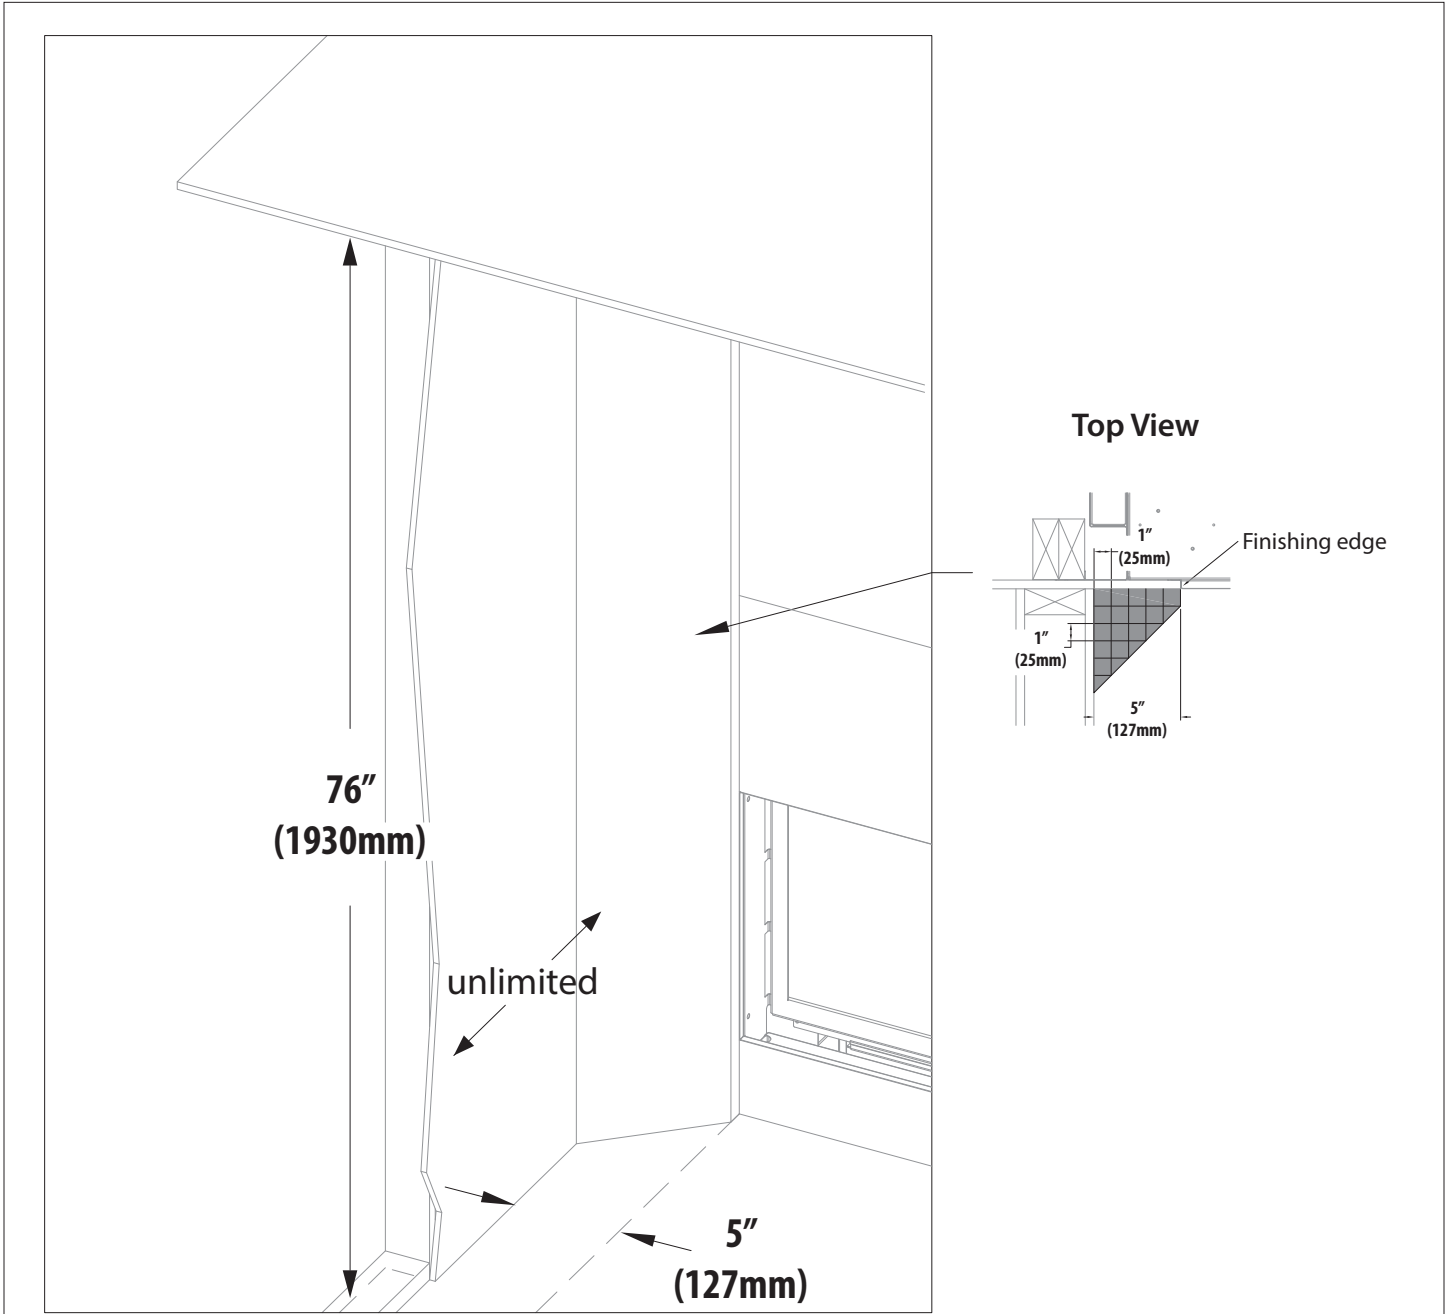

Figure 4.12, Vented Cavity and KZK Adjacent Sidewall Clearances - No Surround
- **Mantel Leg:** Follow 'side combustible clearance' below. See Figure 4.12 on page 45. *If installing an optional surround*, refer to Measurement 'A', in Section 4.4 Finishing Guidelines for Optional Surrounds on page 42, for the space required from the optional surround sides to finishing material.
- **Side Combustible Clearance:** 1" (25mm) combustible side trim can be flush with the side finishing edge. After 5" (127mm), this projection is unlimited. See Figure 4.12 on page 45. *If installing an optional surround*, refer to Measurement 'A', in Section 4.4 Finishing Guidelines for Optional Surrounds on page 42, for the space required from the optional surround sides to finishing material.
- The adjacent sidewall minimum clearance is 5" (127mm) from the side finishing edges of the fireplace. See Figure 4.12 on page 45. *If installing an optional surround*, refer to Measurement 'A', in Section 4.4 Finishing Guidelines for Optional Surrounds on page 42, for the space required from the optional surround sides to finishing material.